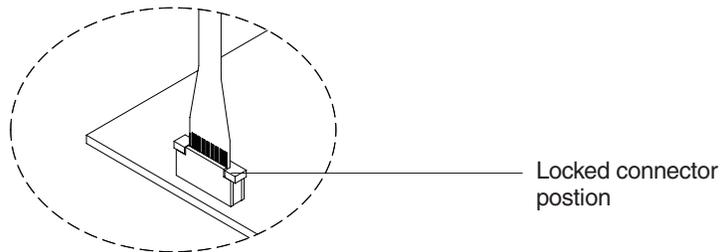

Figure 54. Locked connector position
1. Pull up on the connector holder to unlock the cable (see Figure 54 on page 55).
3. Push down on the connector holder to lock the cable in place (see Figure 54).